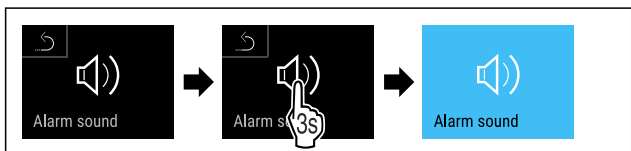

Fig. 92
- ▶ Complete steps (see Fig. 92) .